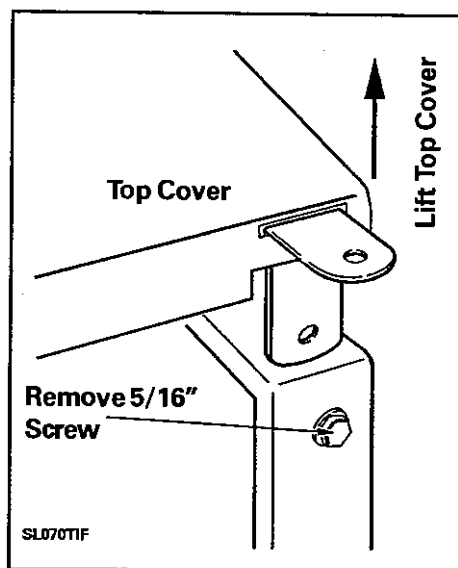

Figure 9-6
- Remove two 5/16" hex head screws in upper front cabinet flange (*Figure 9-6*).
4. Remove the lower 5/16" hex head screw in the upper right hand top cover cabinet bracket (Figure 9-6).
5. Raise the front right corner of the top cover with bracket attached till the bracket clears the front cabinet flange (Figure 9-6).